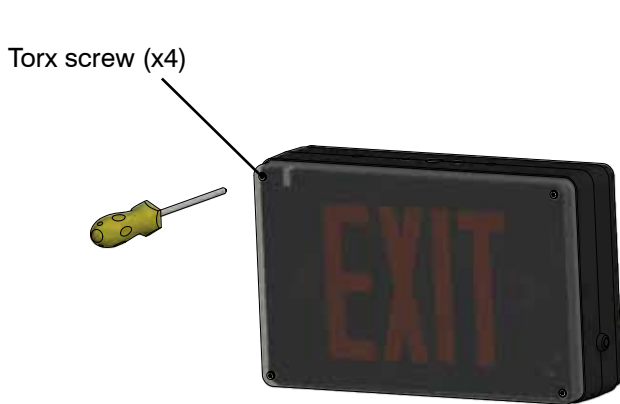

Figure 1
1. Remove TORX screws to release clear cover. There are 4 O-rings inserted to the clear cover screw holes. See Fig. 1. Release the stencil from the clear cover. Knockout to remove the chevron as necessary from the stencil. Peel off backing paper from the tape on the back of the stencil and carefully position and stick the colored fiber to the stencil.